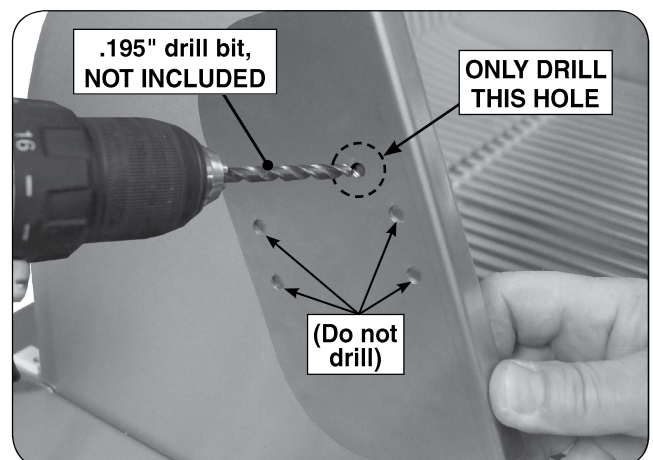

Fig. 2-4 Drill hole for spring mount (on oven base)
5. Using a .195" drill bit (**not included**), drill a hole through the base oven side wall as shown in Fig. 2-4.